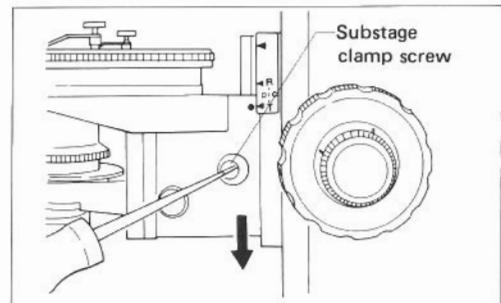

Fig. 27
- Releasing the clamp screw using a screw driver, as shown in Fig. 27, permits lowering the substage as far as 32mm from the observing position beyond the moving stroke of the focusing device.